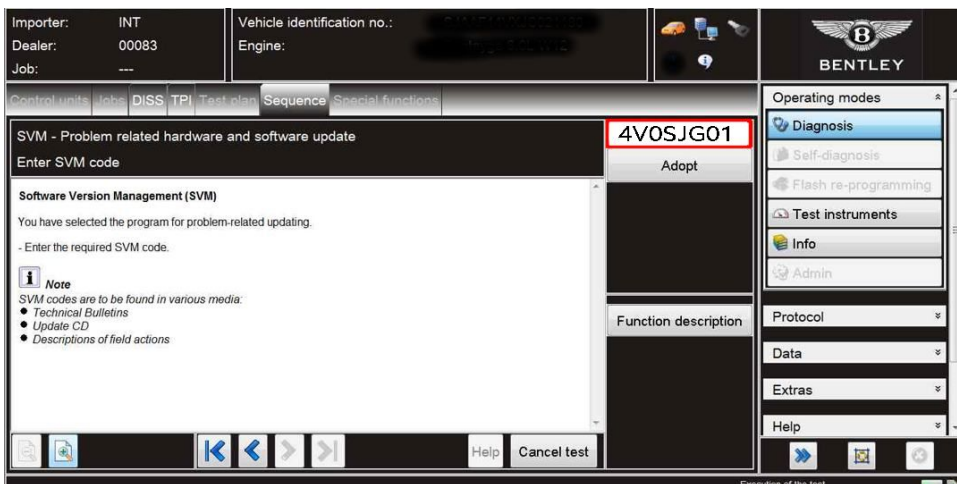

Figure 3
2. On the next screen enter the SVM code 4V0SJG01 and select Adopt (Figure 3)